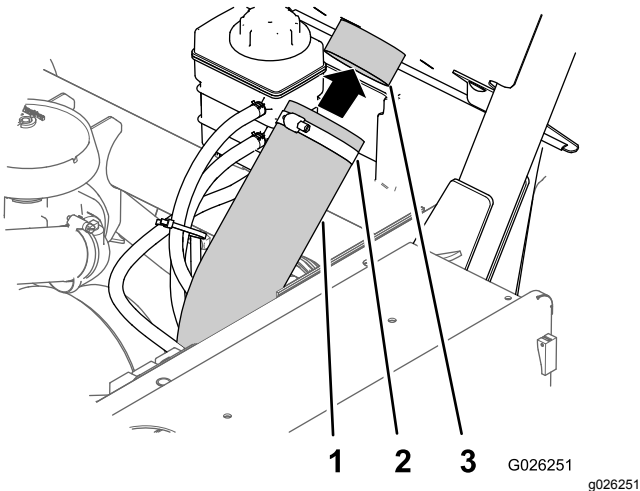

Figure 7
3. Align the CVT-intake hose onto the intake-tube connector at the back side of the ROPS panel and tighten the hose clamp (Figure 7).